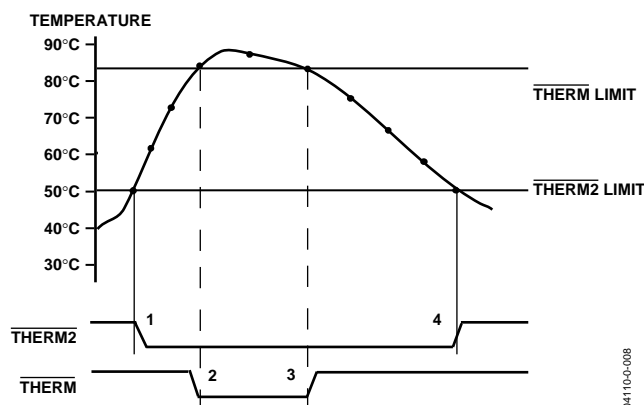

Figure 22. Operation of the  $\overline{\text{THERM}}$  and  $\overline{\text{THERM2}}$  Interrupts
Figure 22 shows how  $\overline{\text{THERM}}$  and  $\overline{\text{THERM2}}$  might operate together to implement two methods of cooling the system. In this example, the  $\overline{\text{THERM2}}$  limits are set lower than the  $\overline{\text{THERM}}$  limits. The  $\overline{\text{THERM2}}$  output could be used to turn on a fan. If the temperature continues to rise and exceeds the  $\overline{\text{THERM}}$  limits, the  $\overline{\text{THERM}}$  output could provide additional cooling by throttling the CPU.
3. The  $\overline{\text{THERM}}$  output deasserts (goes high) when the temperature falls to  $\overline{\text{THERM}}$  limit minus hysteresis. In Figure 22, there is no hysteresis value shown.